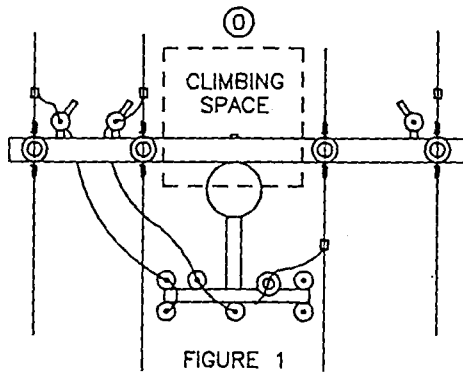

FIGURE 1
SCOPE: THIS STANDARD SHOWS TANGENT LINE (FIG.1) AND DEAD-END CONSTRUCTION (FIG.2) FOR 12.47 KV AND BELOW, 3Ø CABLE POLE WITH UPSWEEP BRACKET MOUNTED TERMINALS FOR #2/0 AND SMALLER UG CABLE.
- TANGENT CABLE POLE (FIG.1) OR DEAD-END CABLE POLE (DOTTED LINE) IS TO BE USED WHEN FURTHER LINE EXTENSION IS EXPECTED.
| | | FIG.1 | FIG.2 | | |